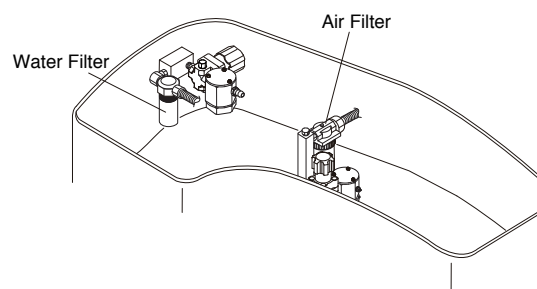

Fig.4-13 Filter
(8) FILTER REPLACEMENT (Fig.4-13)